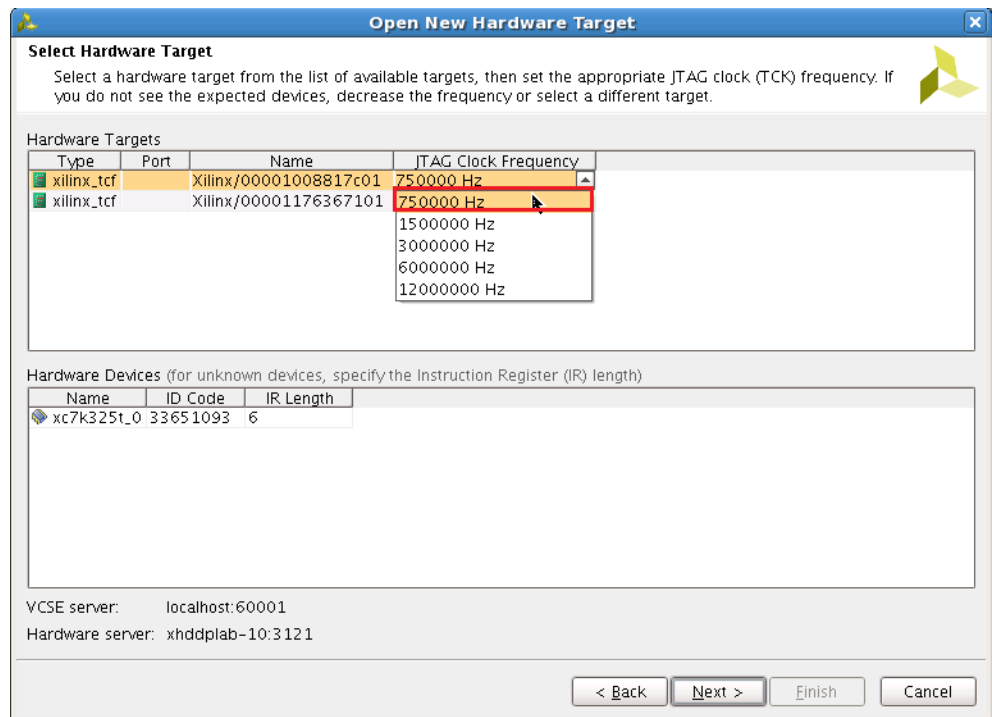

Figure 18: Select Hardware Target
4. On the Select Hardware Target page, set the **JTAG Clock Frequency** for both boards to **750000 Hz** (Figure 18).